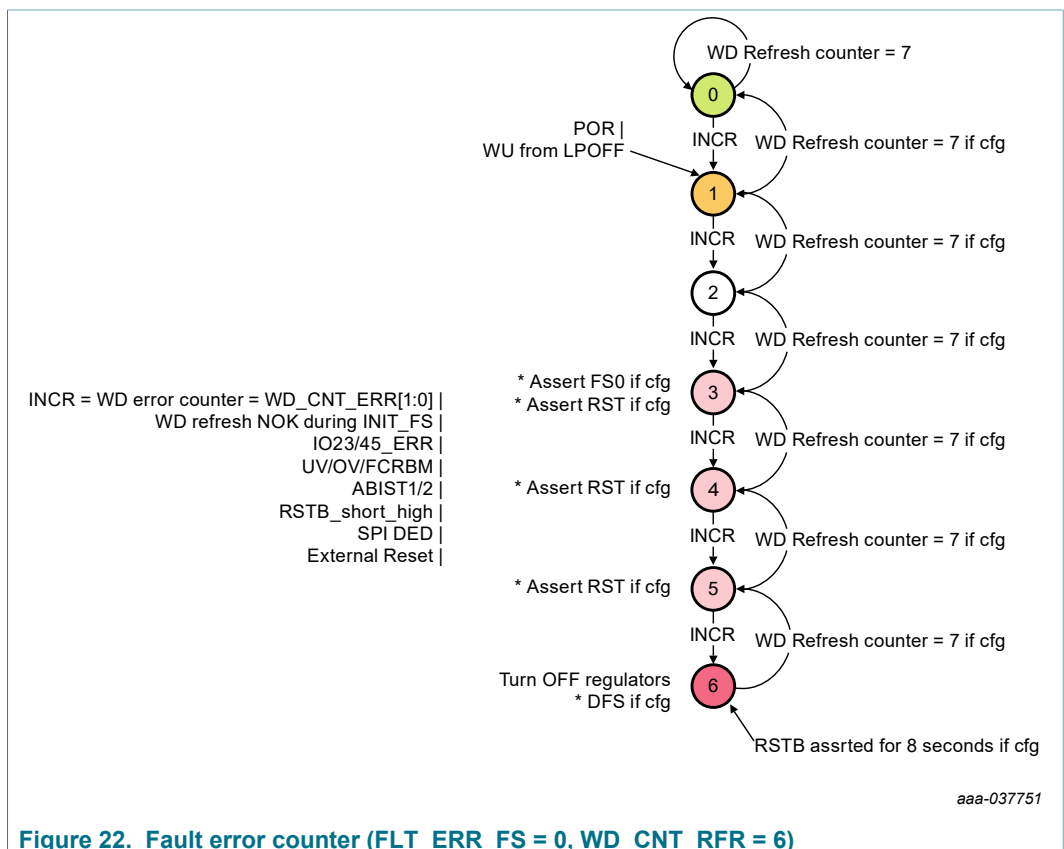

Figure 22. Fault error counter (FLT_ERR_FS = 0, WD_CNT_RFR = 6)
- FLT_ERR_FS = 0/Intermediate = 3; Final = 6 (Figure 22).